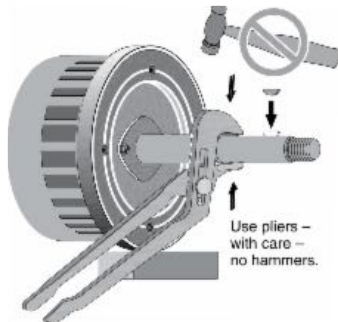

Figure 33
3. Make sure that the shaft keys are in place on the shaft. If they are not, squeeze them in place now with slip joint pliers. Do not tap them or hit them with a hammer; you could bend the shaft (see Figure 33). When the keys are correctly installed, the adapter will pass over the keys without interference.